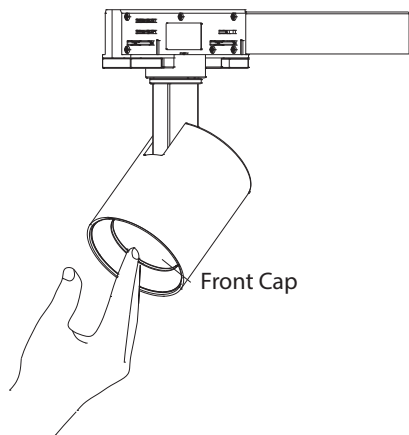

Fig.5
Step 1: Gently move front cap forward to remove it. One torsion spring will remain engaged while other will slide out completely. (See **Fig 5**)